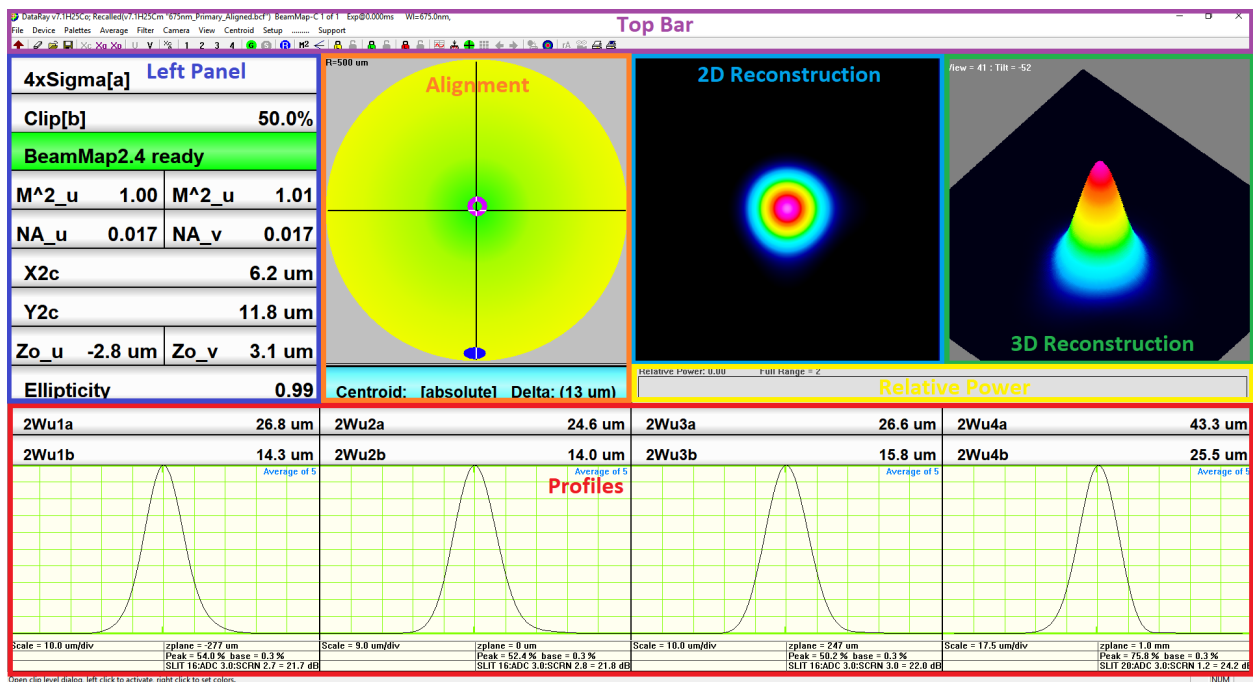

Fig. 3.2: BeamMap2 Software Panels
- The elliptical marker in the alignment panel tracks the focus position of the beam. This marker will move left/right to indicate whether the beam waist is positioned before/after the z=0 plane. The beam should be adjusted in Z in order to center this elliptical marker as shown in Figure 3.2. At this position, the beam waist will lie on the Z=0 slit plane.
- Visually display beam waist location with elliptical marker which only moves left and right. When the ellipse is centered at the bottom of the alignment panel, as shown in Figure 3.2, the beam waist is located at the Z=0 slit plane.
- By default, the X profiles at each slit plane are shown. The toolbar icons can be used to see the four Y profiles instead (Y), or the X and Y profiles for each slit plane individually (1, 2, 3, 4).